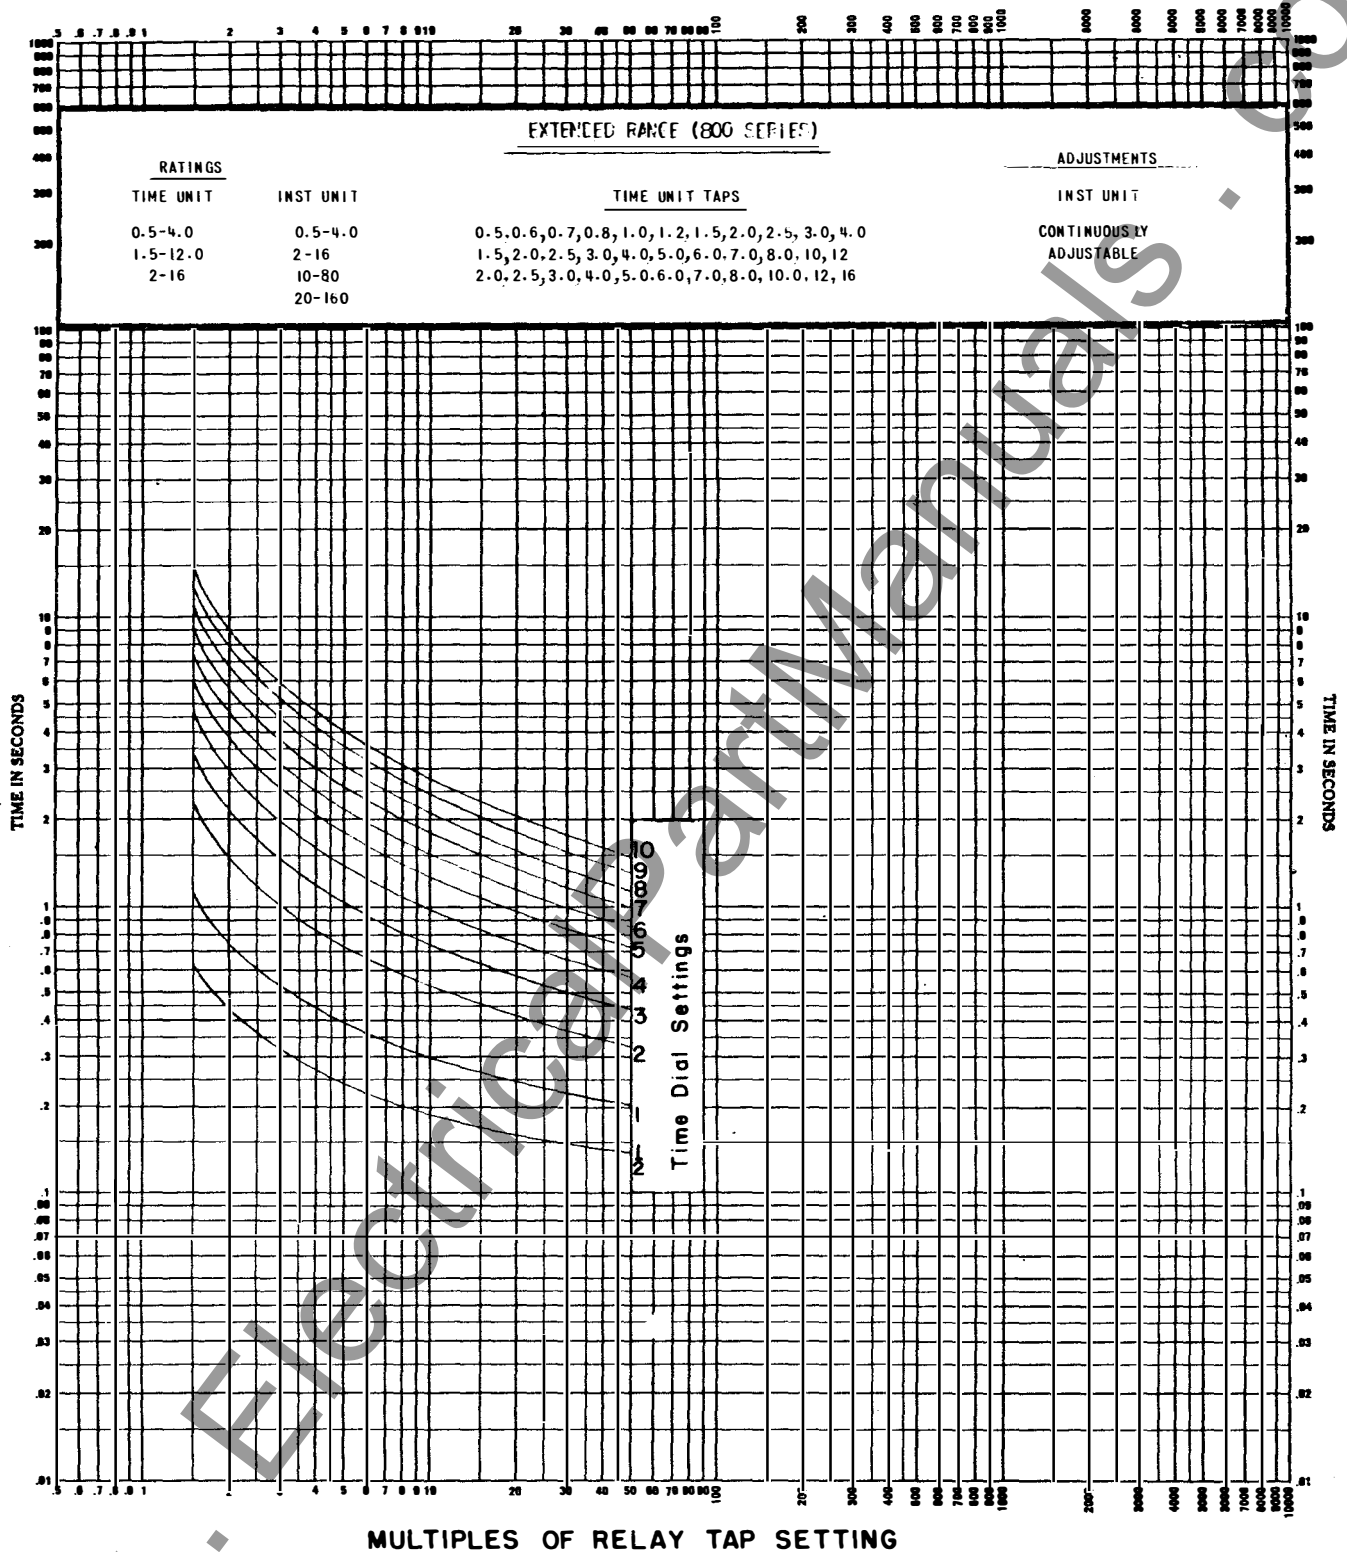

Figure 13 (0888B0269-3) Time-current Characteristic of Inverse-Time Overcurrent Unit
- Figure 13 (0888B0269-3) Time-current Characteristic of Inverse-Time Overcurrent Unit